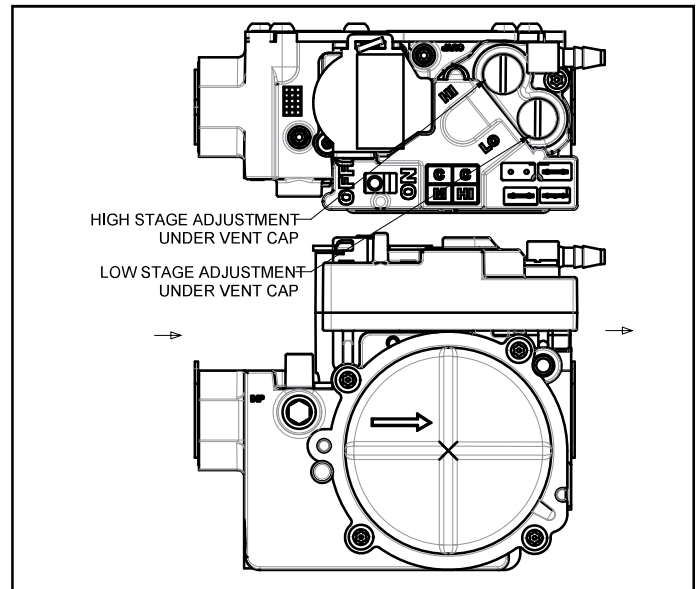

Figure 7. Gas Valve
3. Slide the gas valve switch to the "ON" position (see Figure 7).
2. Slide the gas valve switch to the "OFF" position (see Figure 7).
The manifold pressure can be measured by shutting off the gas, removing the pipe plug in the downstream side of the gas valve, and connecting a water manometer or gauge. **Under no circumstances should the final manifold pressure vary more than 0.3" w.c. from the above specified pressures.** To adjust the regulator, turn the adjusting screw on the regulator clockwise to increase pressure and input or counterclockwise to decrease pressure and input. See Figure 7 to assist in locating the regulator on the gas valve.
1. Slide the gas valve switch to the "OFF" position (see Figure 7).
4. Slide the gas valve switch to the "ON" position and initiate a call for heat. If manifold pressure must be adjusted, the gas valve has separate adjusting screws for first stage (LO) and second stage (HI) (see figure 7). Turn the adjusting screws clockwise to increase pressure and input; turn counterclockwise to decrease pressure and input. The pressure regulator adjustment is sensitive. One turn of the adjusting screw results in a large change in manifold pressure. Final first-stage and second-stage manifold pressures must be within the allowable ranges for the gas being used.